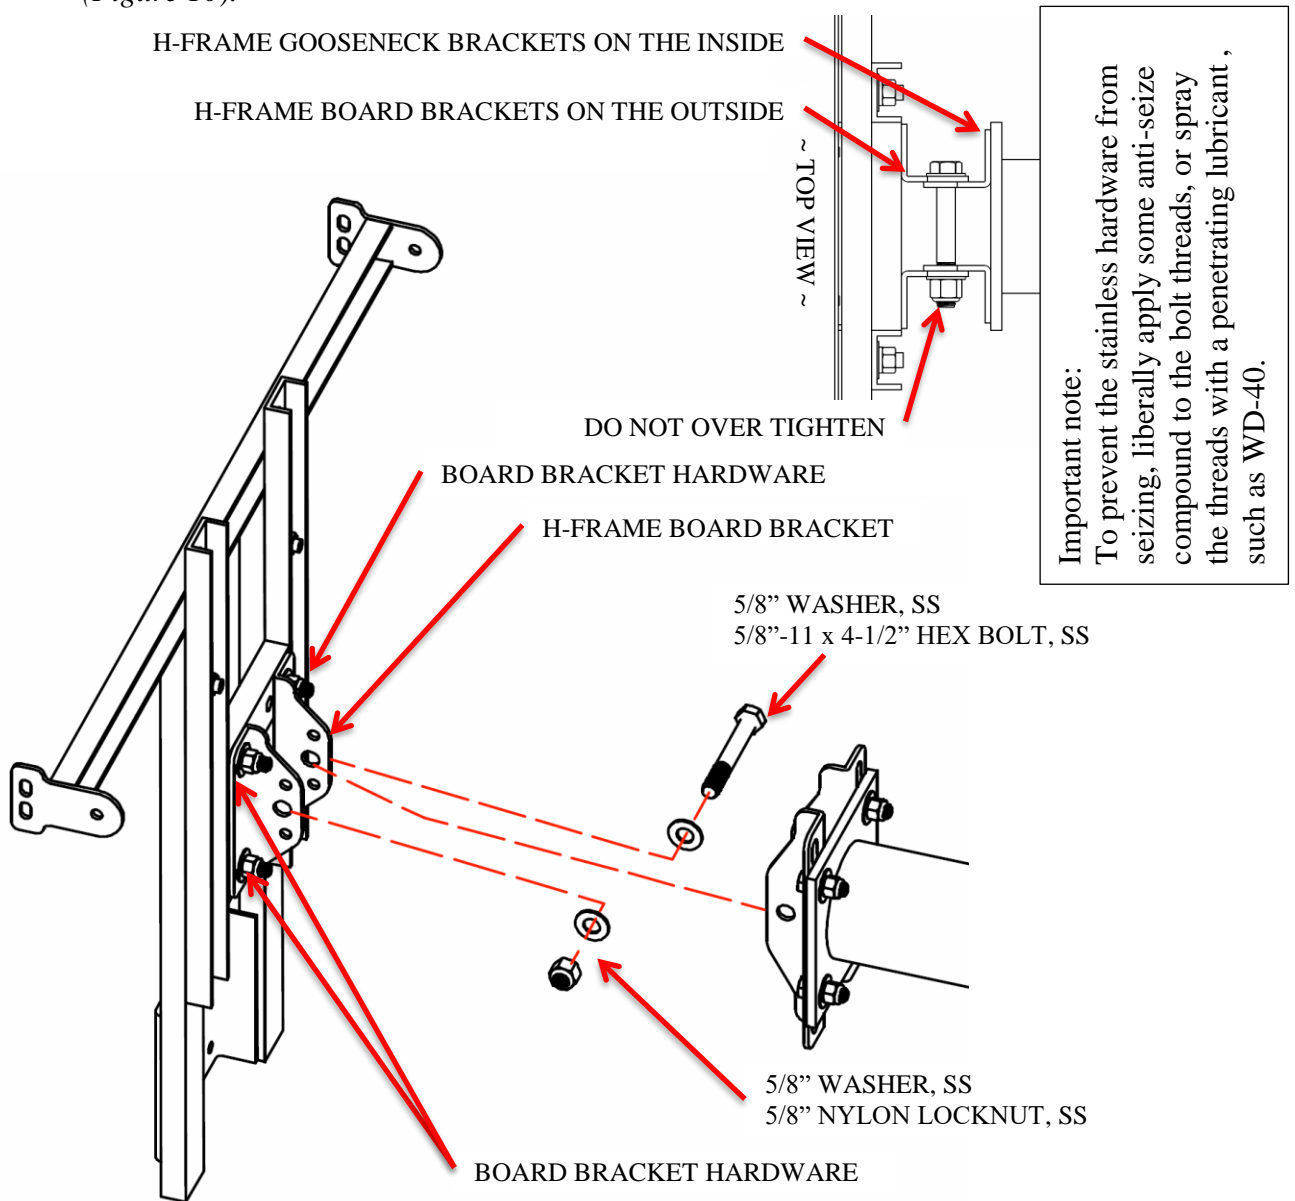

Figure 7
1. Once the H-Frame board brackets is on the H-Frame gooseneck bracket. Tighten the board bracket hardware (Figure 7).